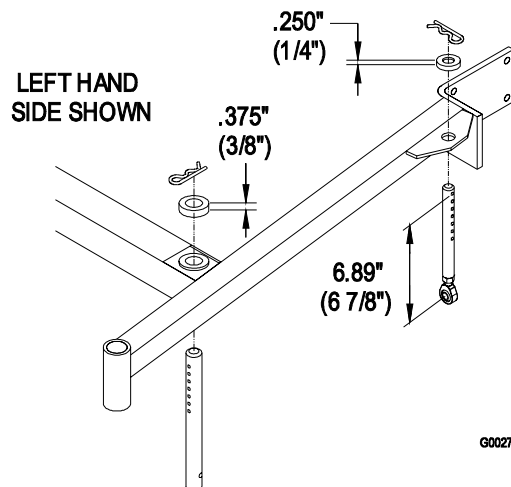

FIGURE 12
1. The front and rear hairpins are in the same holes with the proper spacers under the hair pins (See Figure 12).
3. The length of the rear deck support link assemblies should average 6.89" (approximately 6 7/8") (17.5 cm) from the center of the balljoint to the center of the furthest hole (See Figure 12).